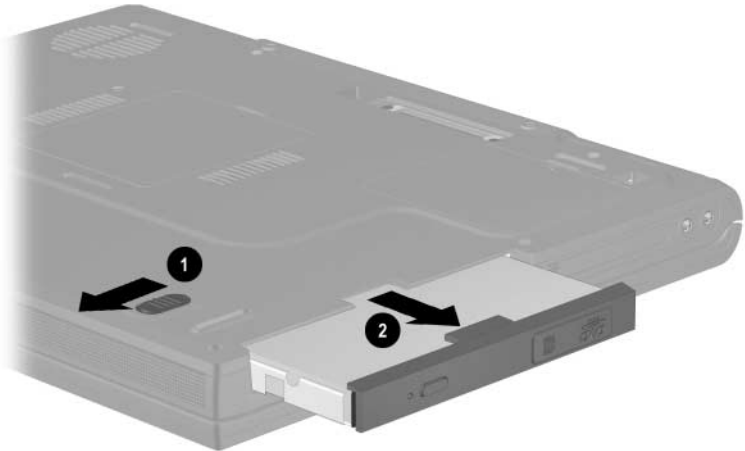

Figure 5-4. Removing a MultiBay Device
- b. Slide and hold the MultiBay release latch toward the front of the computer ❶ (Figure 5-4).
- c. Use the notch in the MultiBay device to slide the device out of the MultiBay ❷.